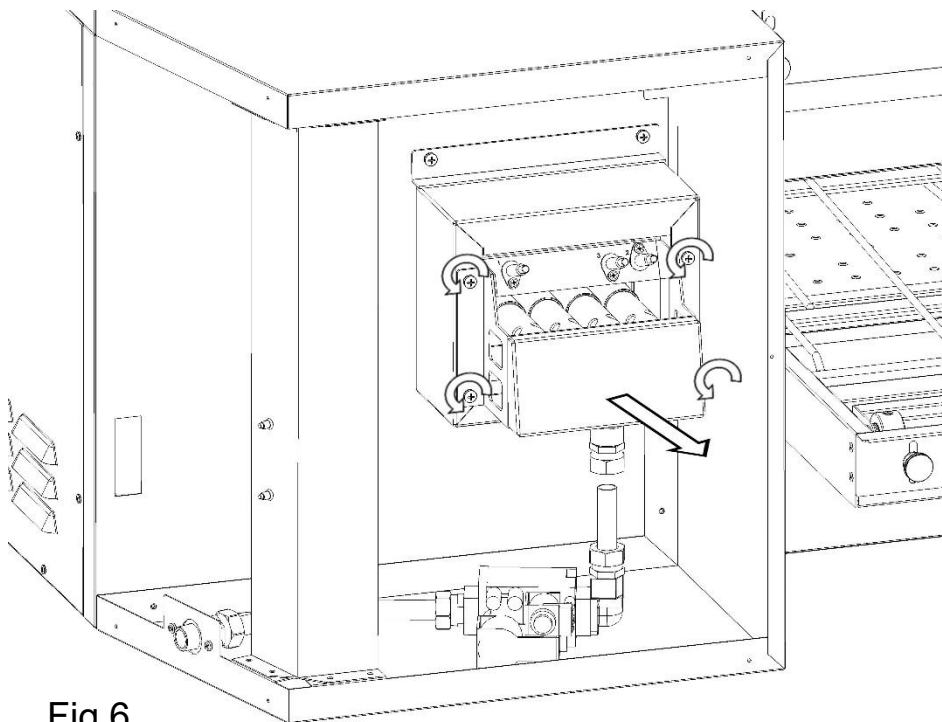

Fig.6
4. Unscrew the screws that secure the burner and pull it out (Fig.6).
Alternatively, tapping on the keypad symbol will take you to the screen for directly selecting the chosen value (*Fig.6*). Confirm with a tick or flag; to cancel, press 'X' to cancel.